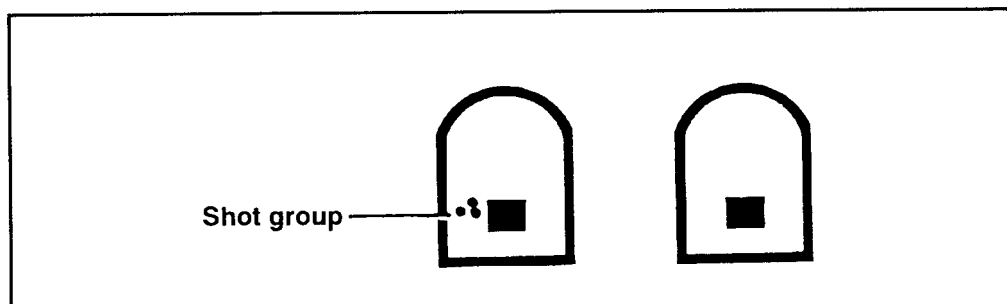
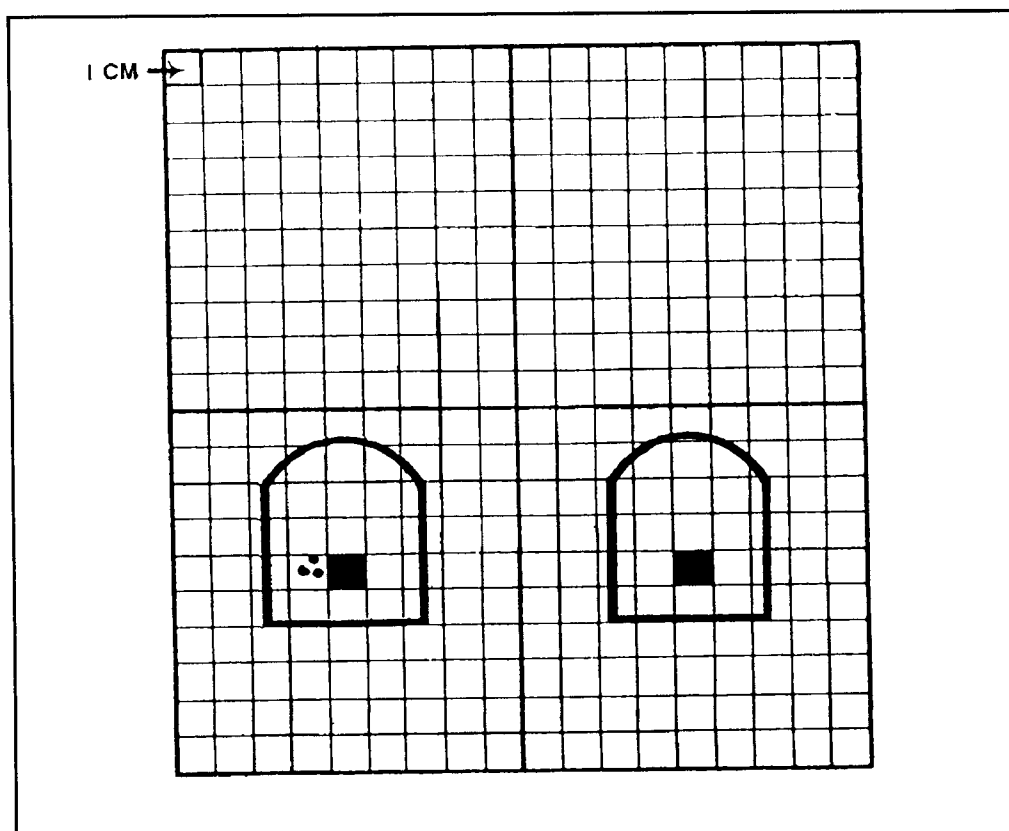

Figure 5-16. Shot group on basic machine gun target.
Figure 5-17. Overlay placed over pasters.
(1) Set the sights for 10-meter zeroing, then fire a three-round shot group.
(2) After firing the second three-round shot group (Figure 5-16), place the grid square overlay over the pasters (1 and 2) (Figure 5-17) and count the number of clicks it will take for rounds to impact on the black aiming paster. (Corrections for Figure 5-17 would be turn the windage knob toward the muzzle (clockwise) two clicks.)